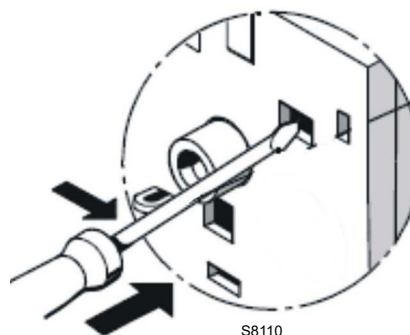

Fig. 23
- **Contact test NC (95-96) and NO (97-98)(Fig. 23)**